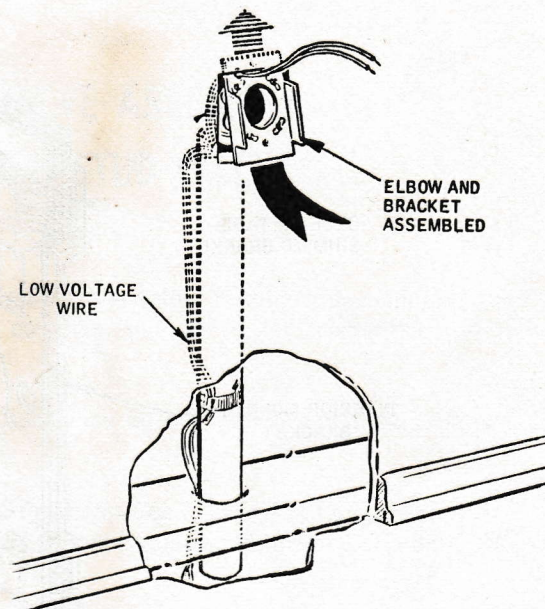

FIGURE 5
7. Put elbow and bracket assembly through wall opening with a swinging motion and connect elbow to tubing. Bracket should fit snugly into hole and rest on the bottom of the wall opening. (See Figure 5)